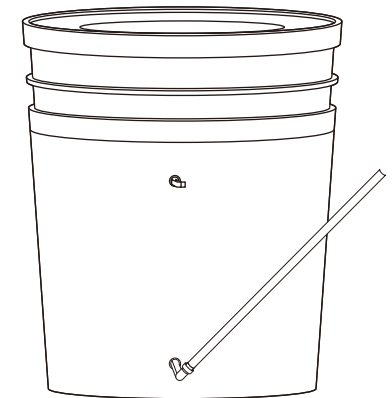

Figure 2
2. Rotate the water pipe downwards and remove the Red Floating Ball #M, as shown in Figure 2.